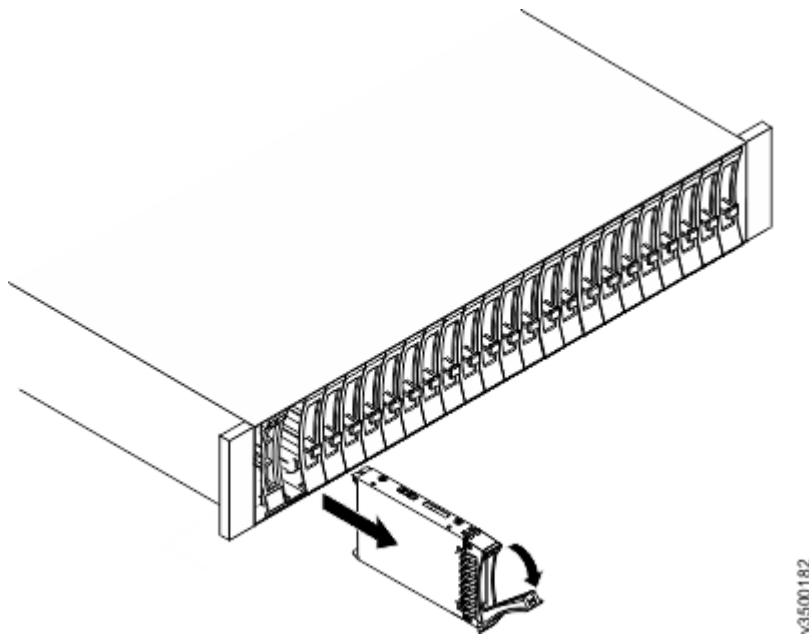
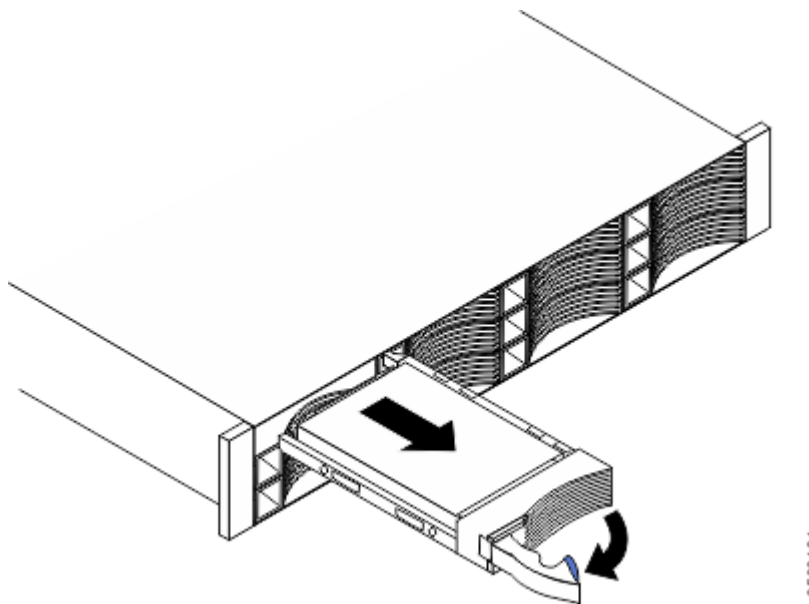

Figure 92. Removing a vertical style hard disk drive
Figure 93. Removing a horizontal style hard disk drive
6. Carefully remove each hard disk drive and label it with the drive slot from which it was removed (so that the drives can be inserted back into the same slots). Refer to Figure 92 on page 144 or Figure 93 on page 144.